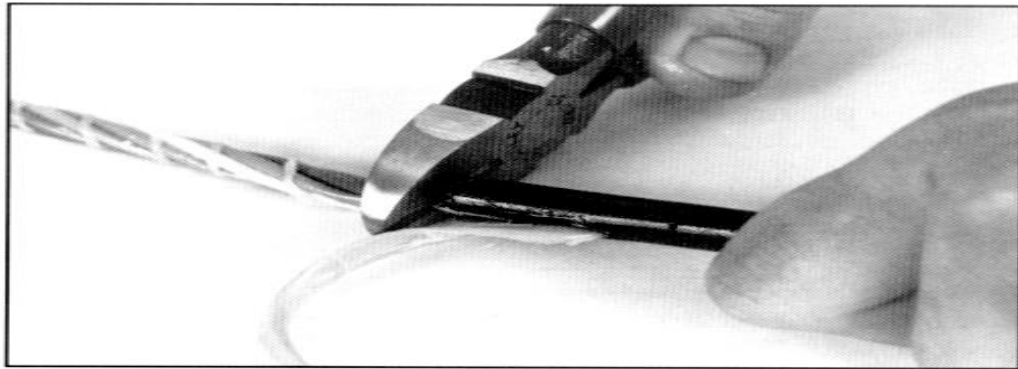

Figure 5
- Remove approximately 12 inches of cable inner sheath from the cable end Cut away all cable Components except the yellow aramid yarn. (Figure 5)